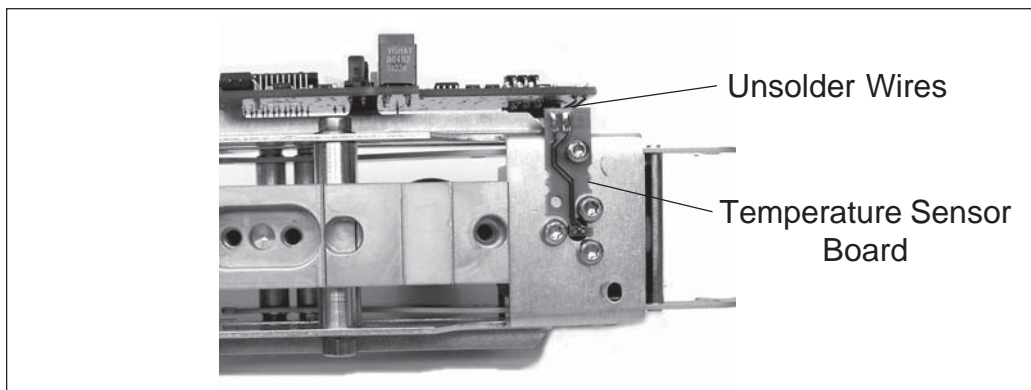

Figure 3-39. Temperature Sensor Board Unsoldering Location.
2. Unsolder Temperature Sensor board cable, see Figure 3-39.